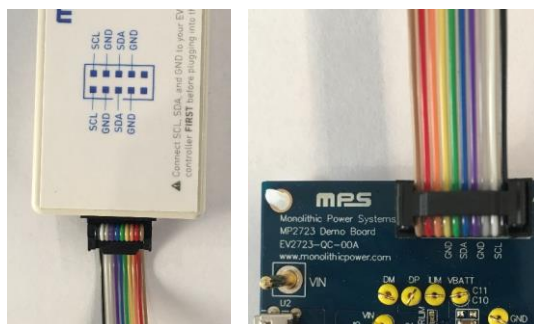

Figure 6: EVB to MPS I²C Communication Interface Wire Connection
2. Connect SCL, SDA, and GND (see Figure 6). Refer to the MP2723 datasheet for further clarification.